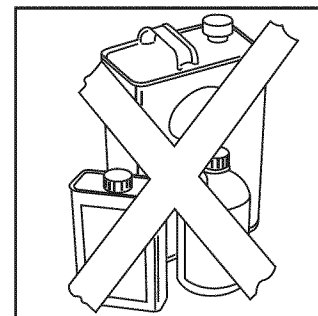

Fig. 3 - NO combustible materials near furnace
- Keep the area around your furnace clear and free of combustible materials, gasoline, and other flammable liquids and vapors. See Fig. 3.